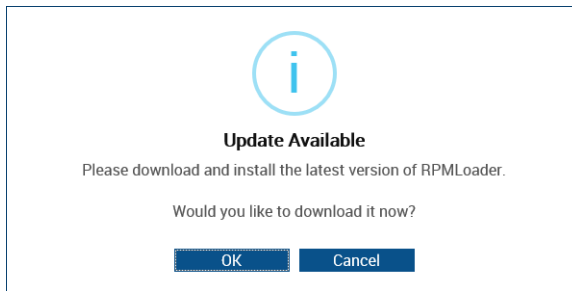

FIG. 35 RPMLoader Update available
- b. Click **Download Project** to download the project to your PC. RPM will prompt you to download the latest version of RPMLoader, if necessary (FIG. 35):